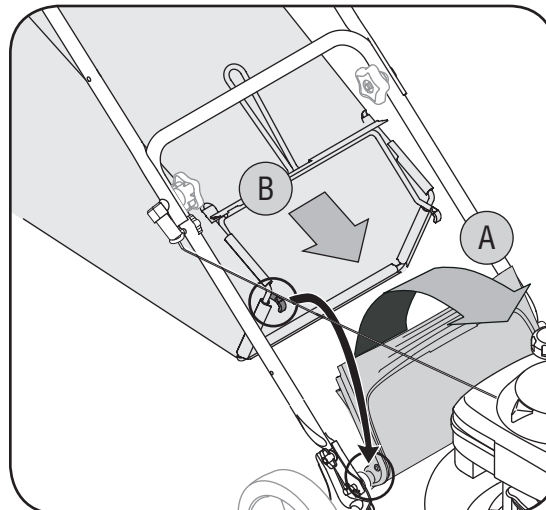

Figure 3-6
- Place grass catcher on the pivot rod. Let go of discharge door so that it rests on the grass catcher. See Figure 3-6.
To remove grass catcher or convert to a mulcher, lift rear discharge door on the mower as shown in Figure 3-6. Lift grass catcher up and out of the pivot rod. Release rear discharge door to allow it to close rear opening of mower.